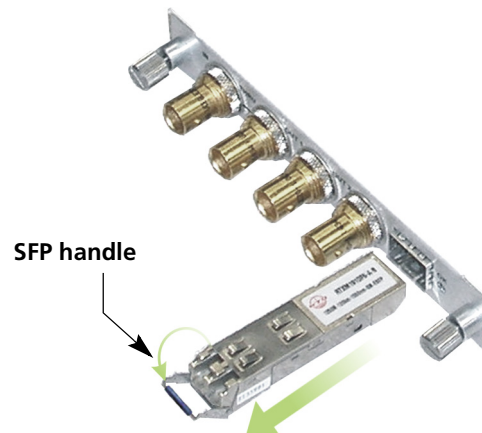

Figure 8. Removing the SFP
2. Pull down on the SFP handle to dislodge the SFP from the DLC100 module (see Figure 8).